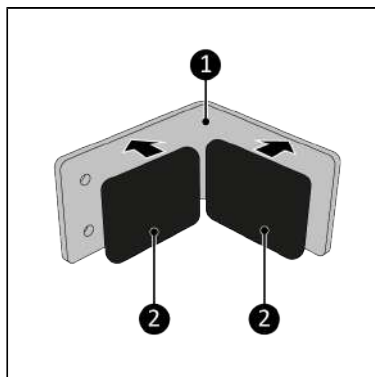

Figure 56.
5. Stick the two 40 x 45 mm anti-slip foams (Figure 56, pos. 2) on the insides of the top part of the bracket (Figure 56, pos. 1). Be sure the anti-slip foam is covering both screw holes. This will prevent damage to the window frame during installation.